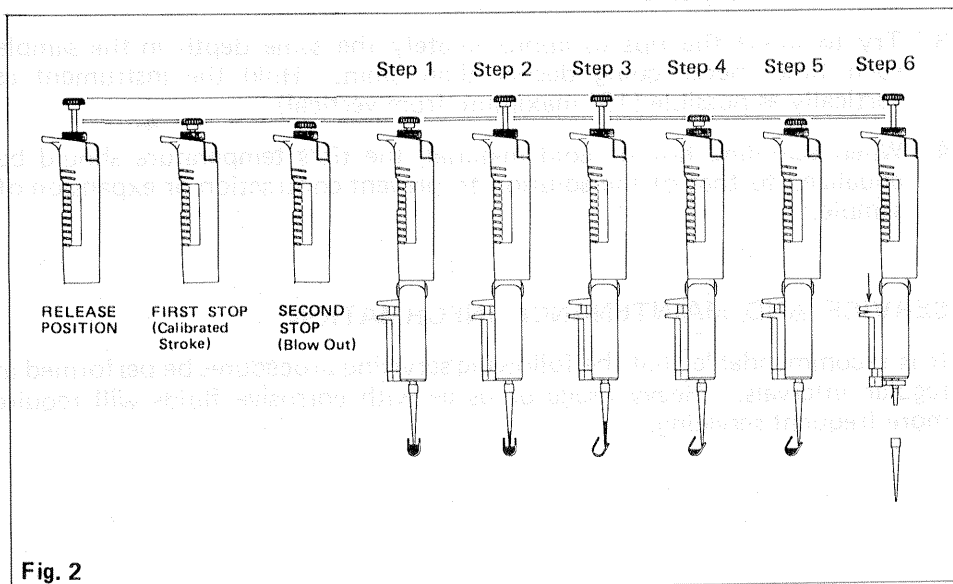

Fig. 2
3. Now immerse the tips approximately 3mm into the sample solution. (Step 1, Fig. 2)